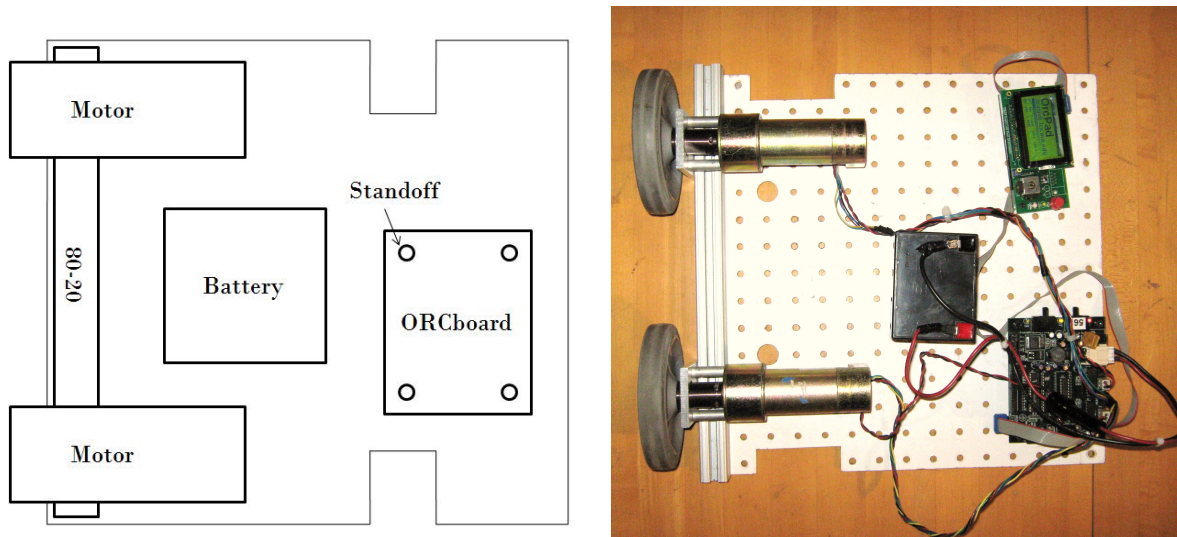

Figure 1: Lab Rig Layout
1. Following the example of the staff's example rig and referring to the Lab Rig Layout (Figure 1) build your own version of the rig. You will need have the motors in place before you screw on the wheels.